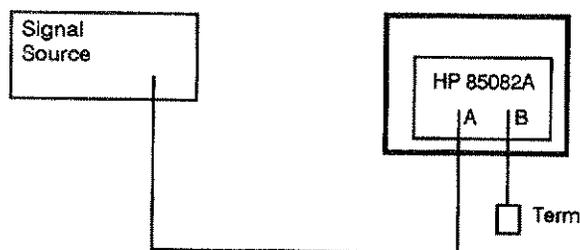

Figure 4-2. Test Setup for Reference Channel Lock Level and Channel B Noise Floor
1. Configure the test equipment as in Figure 4-2.